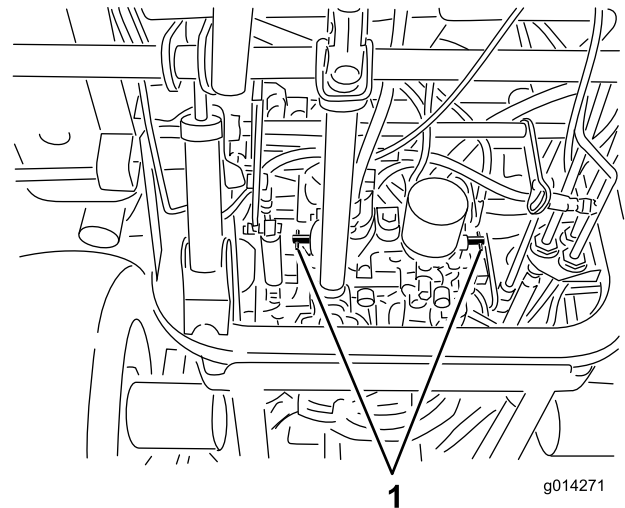

Figure 28
4. Rotate each by-pass valve counterclockwise 1 turn (Figure 28).
Rotate each by-pass valve clockwise 1 turn and hand tighten them (torque of approximately 8 N-m (71 in-lb) (Figure 28).